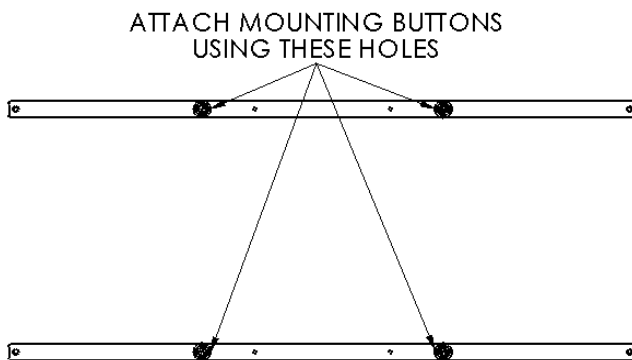
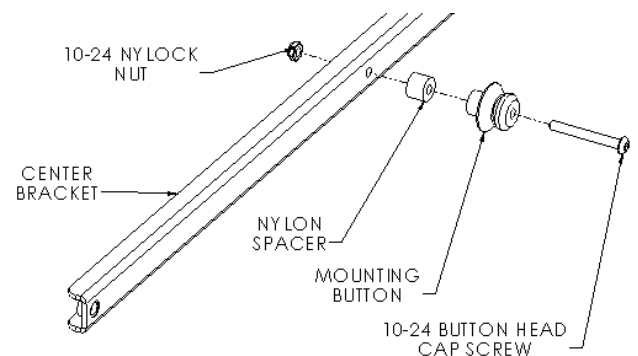

Figure 2
Figure 3
- Using a 10-24 button head cap screw, nylon spacer and nylock nut, secure mounting button to center bracket (four places) (see Figure 2 & Figure 3).